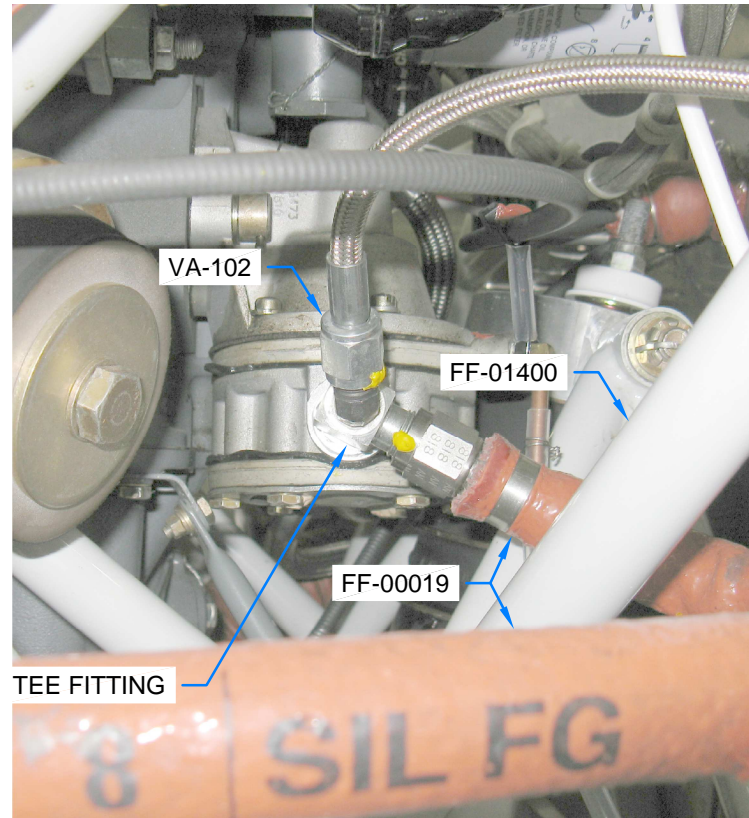

FIGURE 1: HOSES AT FUEL PUMP
Step 1: (Tri-Gear) Install the FF-00019 Hose to the tee fitting at the fuel pump outlet as shown in Figure 1.
Step 2: (Tri-Gear) Route the FF-00019 Hose through the FF-01400 Engine Mount as shown in Figures 1 and 2.